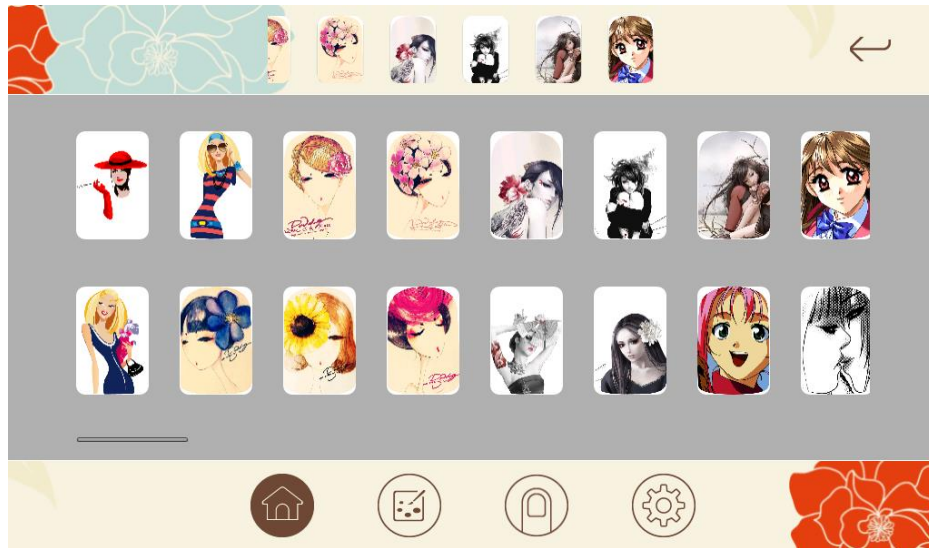

Figure 3
- (3) Enter the style gallery and directly choose the painting patterns, displaying in the preselected area. Long pressing can cancel the preselected pattern, as shown in Figure 3.